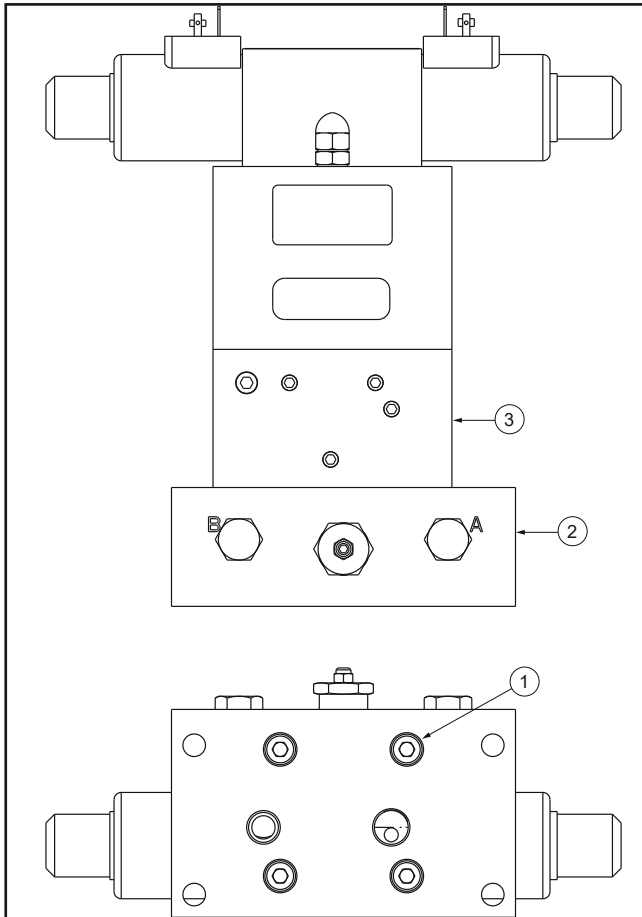

Figure 1: VE33 Disassembly
1. Loosen and remove the 4 M80x60 screws (Item 1, Figure 1) from the bottom of the manifold (Item 2, Figure 1).
2. Remove the manifold (Item 2, Figure 1) from the valve.
3. Mount the assembly on the VE33 valve, under the steel body (Item 3, Figure 1).